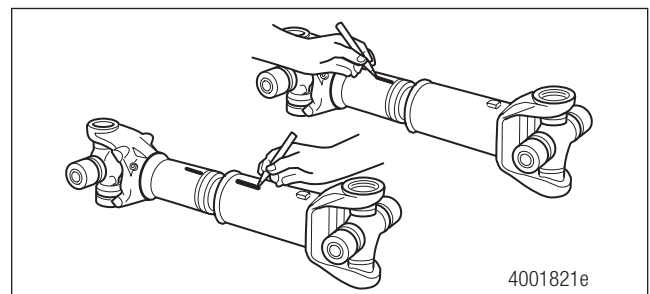

Figure 5.6
3. Mark the slip yoke and slip shaft sections to ensure that you reassemble them into their original positions. Figure 5.6.